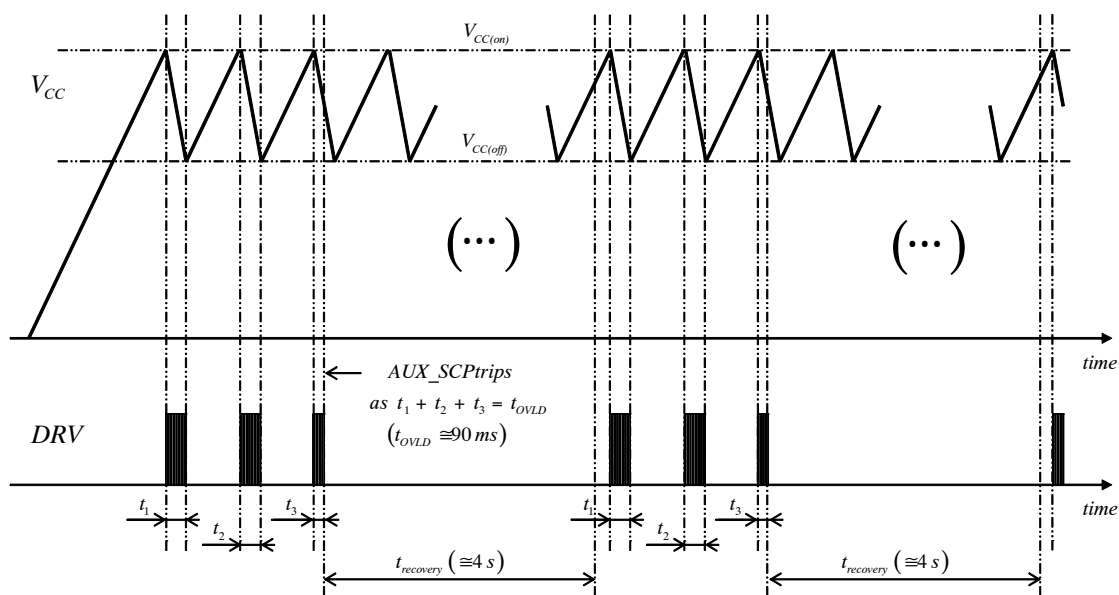

Figure 60. Start-up Sequence in a Load Short-circuit Situation
- If the load is shorted, the circuit will operate in hiccup mode with V_{CC} oscillating between $V_{CC(off)}$ and $V_{CC(on)}$ until the AUX_SCP protection trips (AUX_SCP is triggered if the ZCD pin voltage does not exceed 1 V within a 90-ms operation period of time thus indicating a short to ground of the ZCD pin or an excessive load preventing the output voltage from rising). The AUX_SCP protection forces the 4-s auto-recovery delay to reduce the operation duty-ratio. Figure 60 illustrates a start-up sequence with the output shorted to ground.